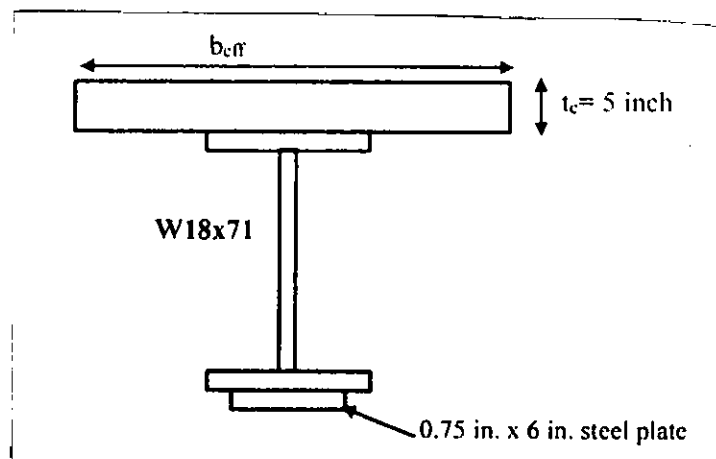

Fig. 3
4. (a) Calculate the service load flexural stresses in concrete and steel of the composite beam shown in Fig. 3 for unshored construction. This is an interior beam with a simply supported span of 28 ft and c/c spacing of the beam is 6 ft. The calculated uniformly distributed service loads on the beam is 0.65 k/ft for self-weight of slab and beam; 0.1 k/ft for construction live load; 0.2 k/ft for floor finish; 0.50 k/ft for partition walls and 1.25 k/ft for floor live load. Consider the beam to be a partially composite beam with 80% composite action between steel and concrete.